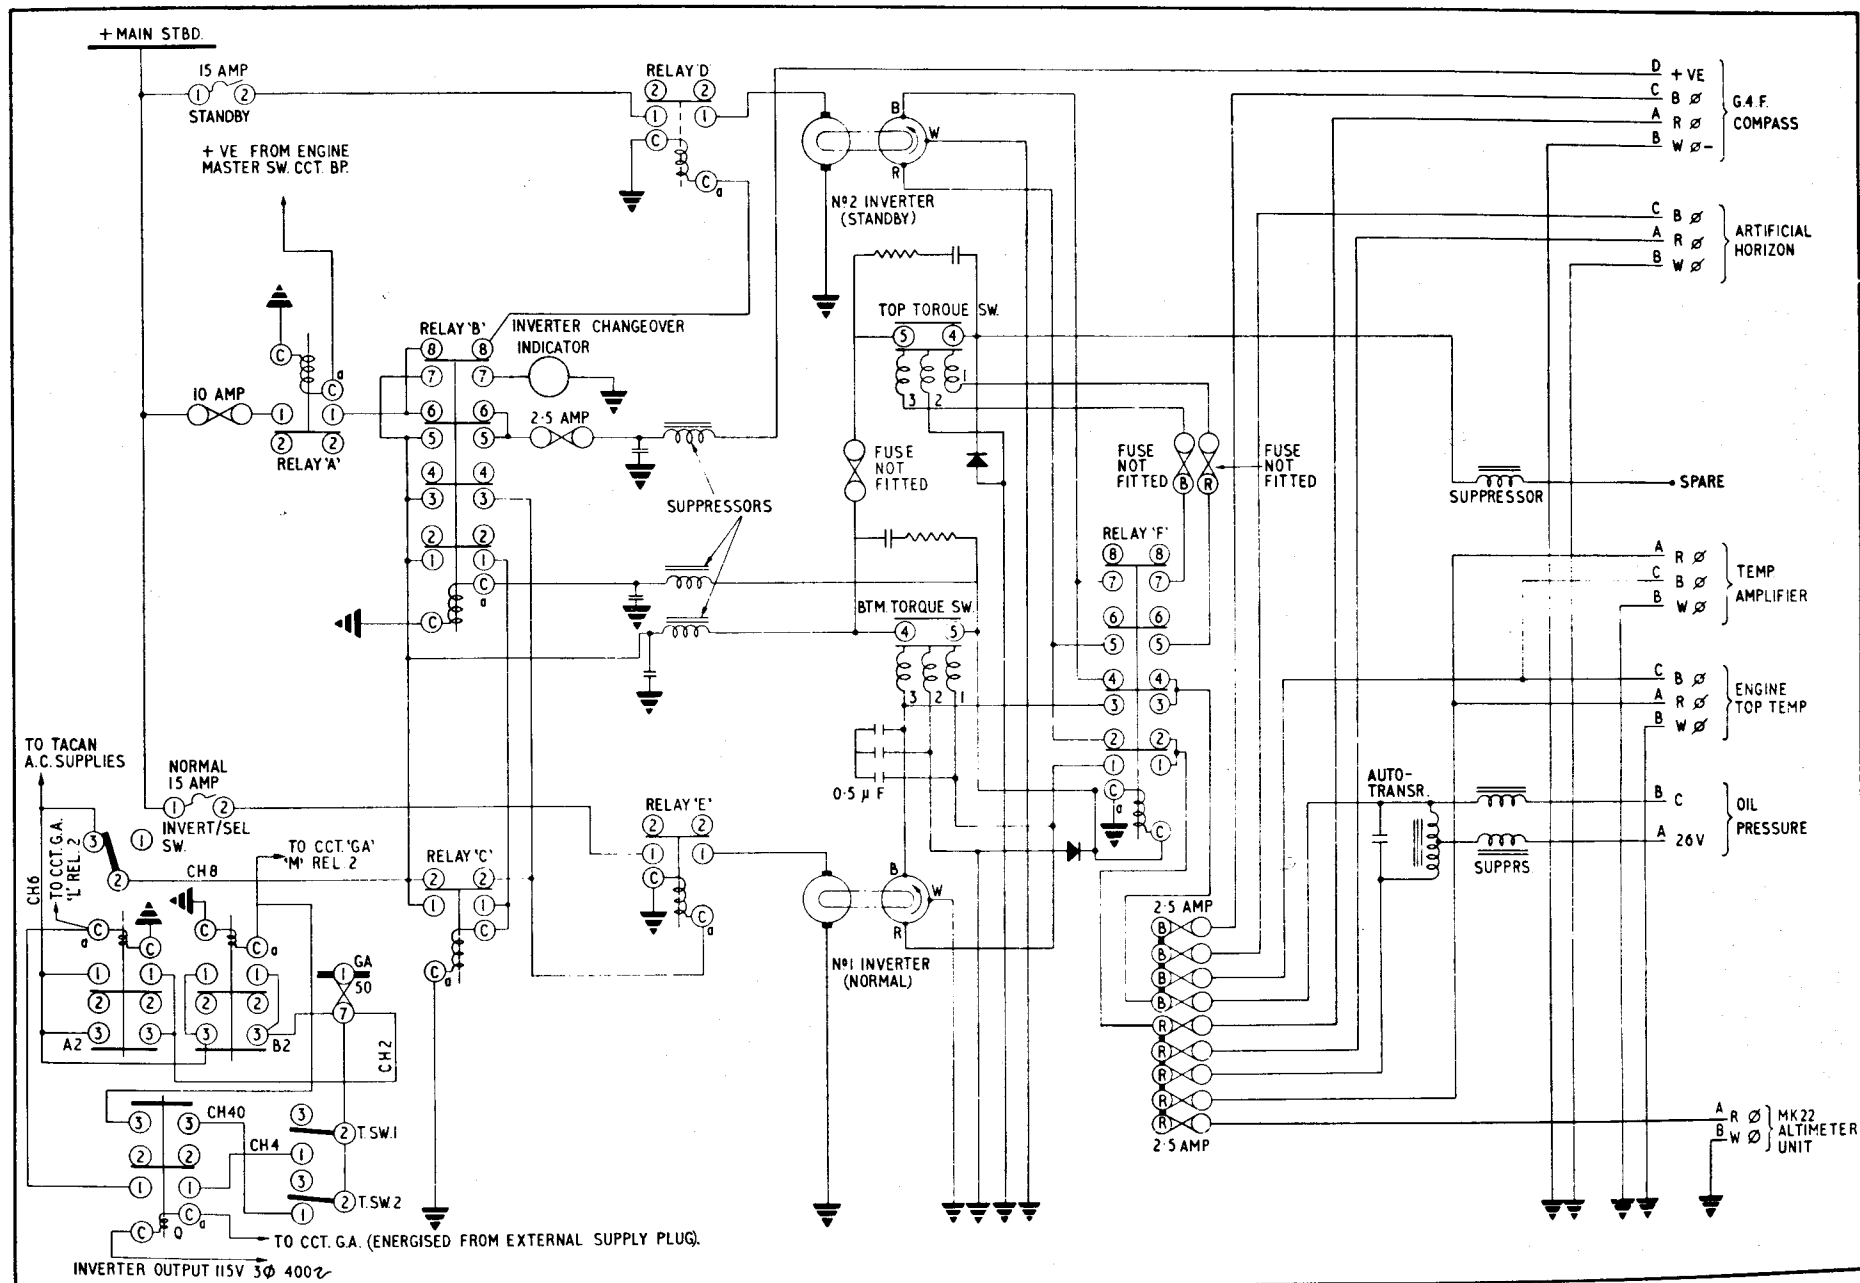
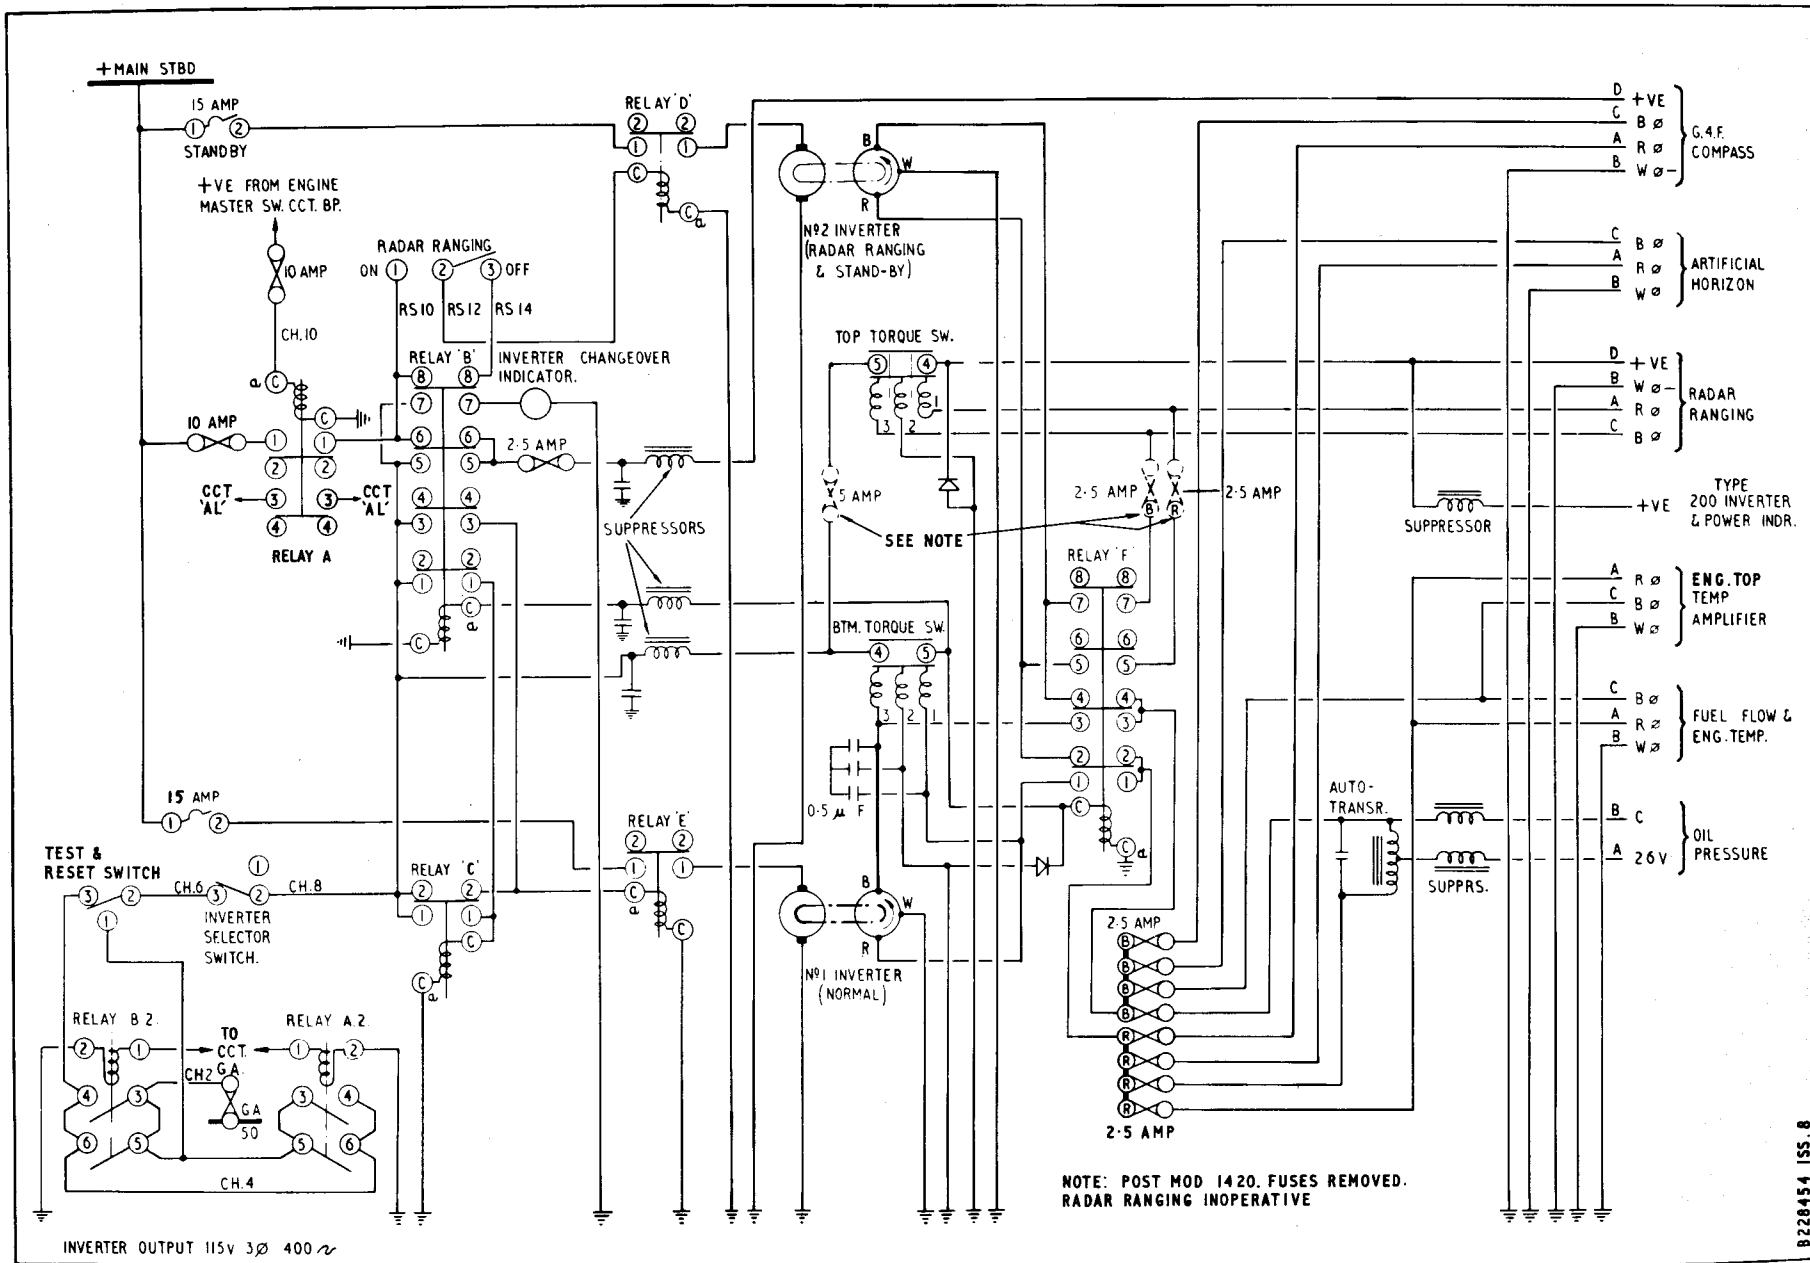

Fig. 1 A.C. supplies circuit — pre Mod. 1375 (theoretical)
Fig. 3 A.C. supplies circuit — post Mod. 1375 (theoretical)
A.C. supplies circuit - pre Mod.1375 (theoretical)	Fig. 1
1. This group contains the description and operation of the a.c. supplies circuits with information on the servicing required to maintain the equipment in an efficient condition. Routing and theoretical diagrams are included, figs.1 and 2 showing the supply circuitry and flying instruments supplied pre and post Mods. 1015 and 1183; figs.3 and 4 showing the circuitry and instruments supplied post Mod.1375. Detailed information on the standard items of equipment fitted in these supply circuits will be found in the Air Publications listed in Table 1.
3. With 28V d.c. supply available at the bus bars, when the engine master switch is selected ON a supply from the engine starter circuit breaker will energize the coil of relay A. With this relay energized, supply is passed via the 10 amp fuse and contacts 1a-1 of relay A, contacts 8-8a of de-energized relay B and contacts 3-2 of the radar ranging switch to energize relay D and supply No.2 inverter via the STANDBY (No.2) circuit breaker and contacts 1-1a of relay D. This inverter will now supply a.c. to the flight instrument via contacts 4-4a, 2-2a of de-energized relay F and the phase bus bars as shown in figs.1 and 3. An additional supply via contacts 1a-1 of relay A, contacts 6-6a of relay B, a 2.5 amp fuse and suppressor is taken as d.c. bias for the Type G4F compass. Post Mod.1375 (fig.3) a supply is taken via a 5 amp fuse and contacts 3a-3 of relay A to supply the d.c. input to the Type 375 static inverter which operates the Mk.30B height encoding altimeter.